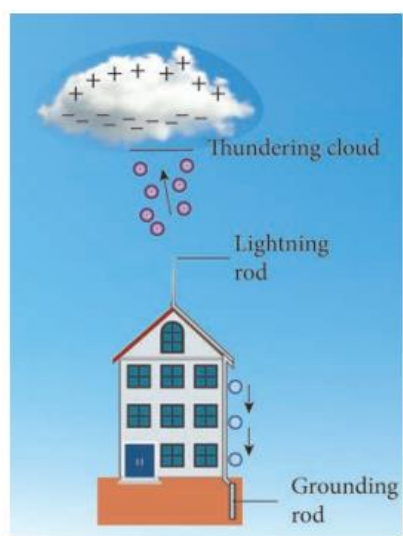

Figure 1.62 (a) Schematic diagram of a lightning arrester. (b) A house with a lightning arrester
- ✓ The upper end of the rod has a sharp spike or a sharp needle as shown in Figure 1.62 (a) and (b).